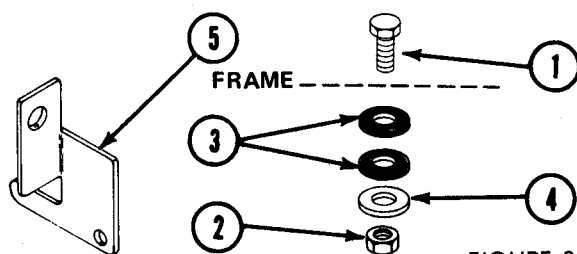

FIGURE 3
5. The idler stop consists of a cap screw, two grommets, a washer and a hex nut. Assemble in the hole as shown in Figure 3 with the cap screw on top of the frame and both grommets under frame.